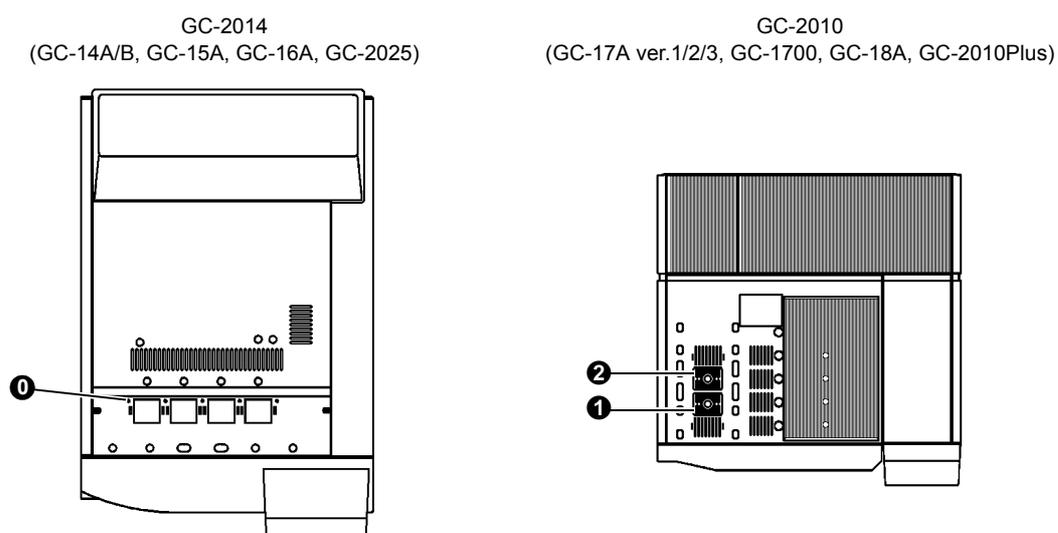

Figure 3-4
- Note 2) When using the autosampler, specifies which injection port on the GC the autoinjector is installed. (See Figure 3-4.)